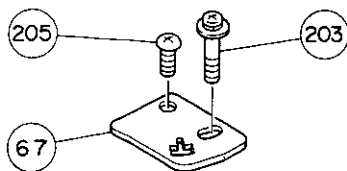

Figure 9
1. Unsolder the five lead-wires on Phono PWB Assy (67) coming from tonearm.
2. Remove the Phono PWB Assy which is mounted to the Plate Assy (47) by two Screws, (203) and (205) (Fig. 9).